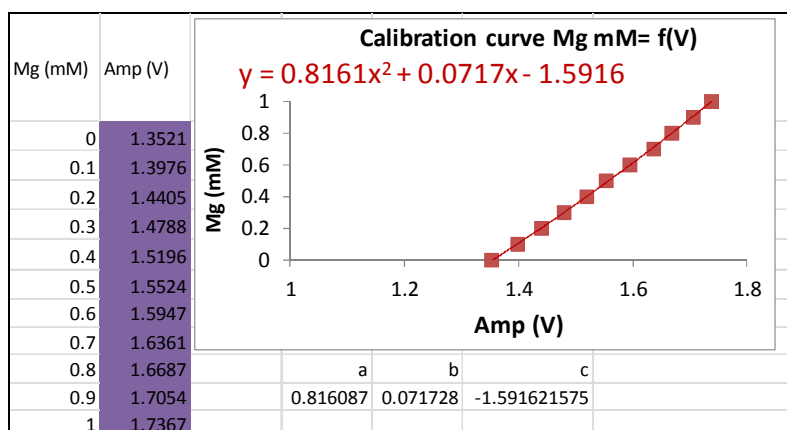

Figure 2.
- In the Calibration curve section, copy/past-transpose (ctrl+T) the Amp(V) in cell Q2 (Figure 2).